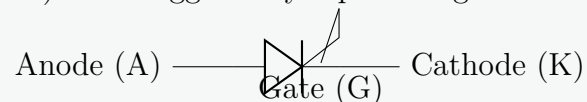

Figure 1: Schematic Symbol of a Silicon Controlled Rectifier (SCR)
1. Circuit Diagram [Fig. 1(c)(i)]
2. Input Voltage Waveform [Fig. 1(c)(ii)]
3. Gate Pulse Sequence [Fig. 1(c)(ii)]